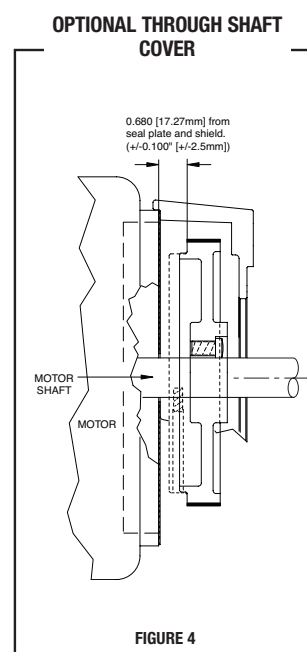

FIGURE 4
1. The through-shaft must project at least 1.58" [40.1mm] from the accessory mounting face. If it is greater than 2" [50.80mm] long, use the outboard through-shaft cover, detailed in Figure 4.